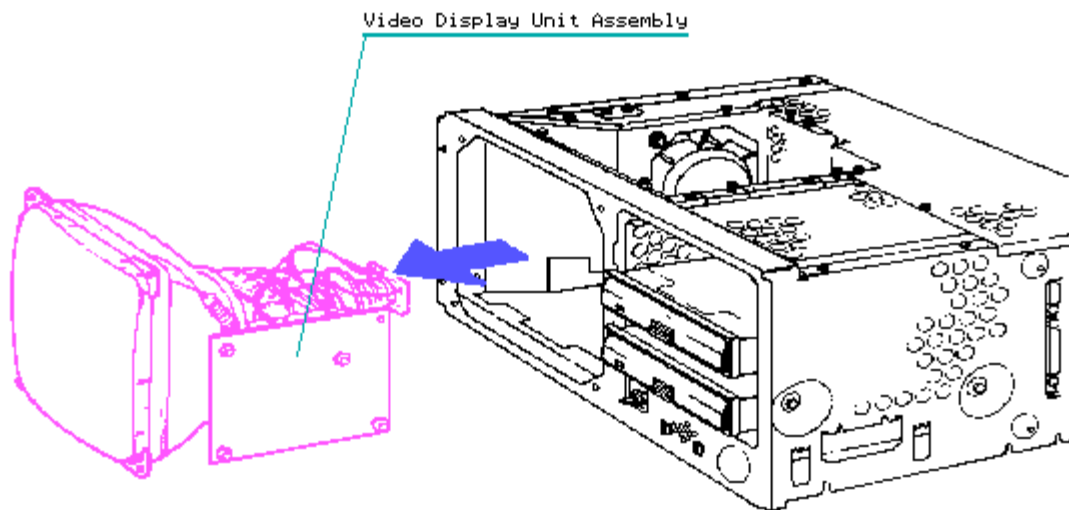

Figure 7-69. Removing the Video Display Unit from the System Chassis
10. Remove the VDU from the system chassis by grasping the display screen and the VDU sweep board and then sliding the unit until it is out of the system chassis (Figure 7-69).